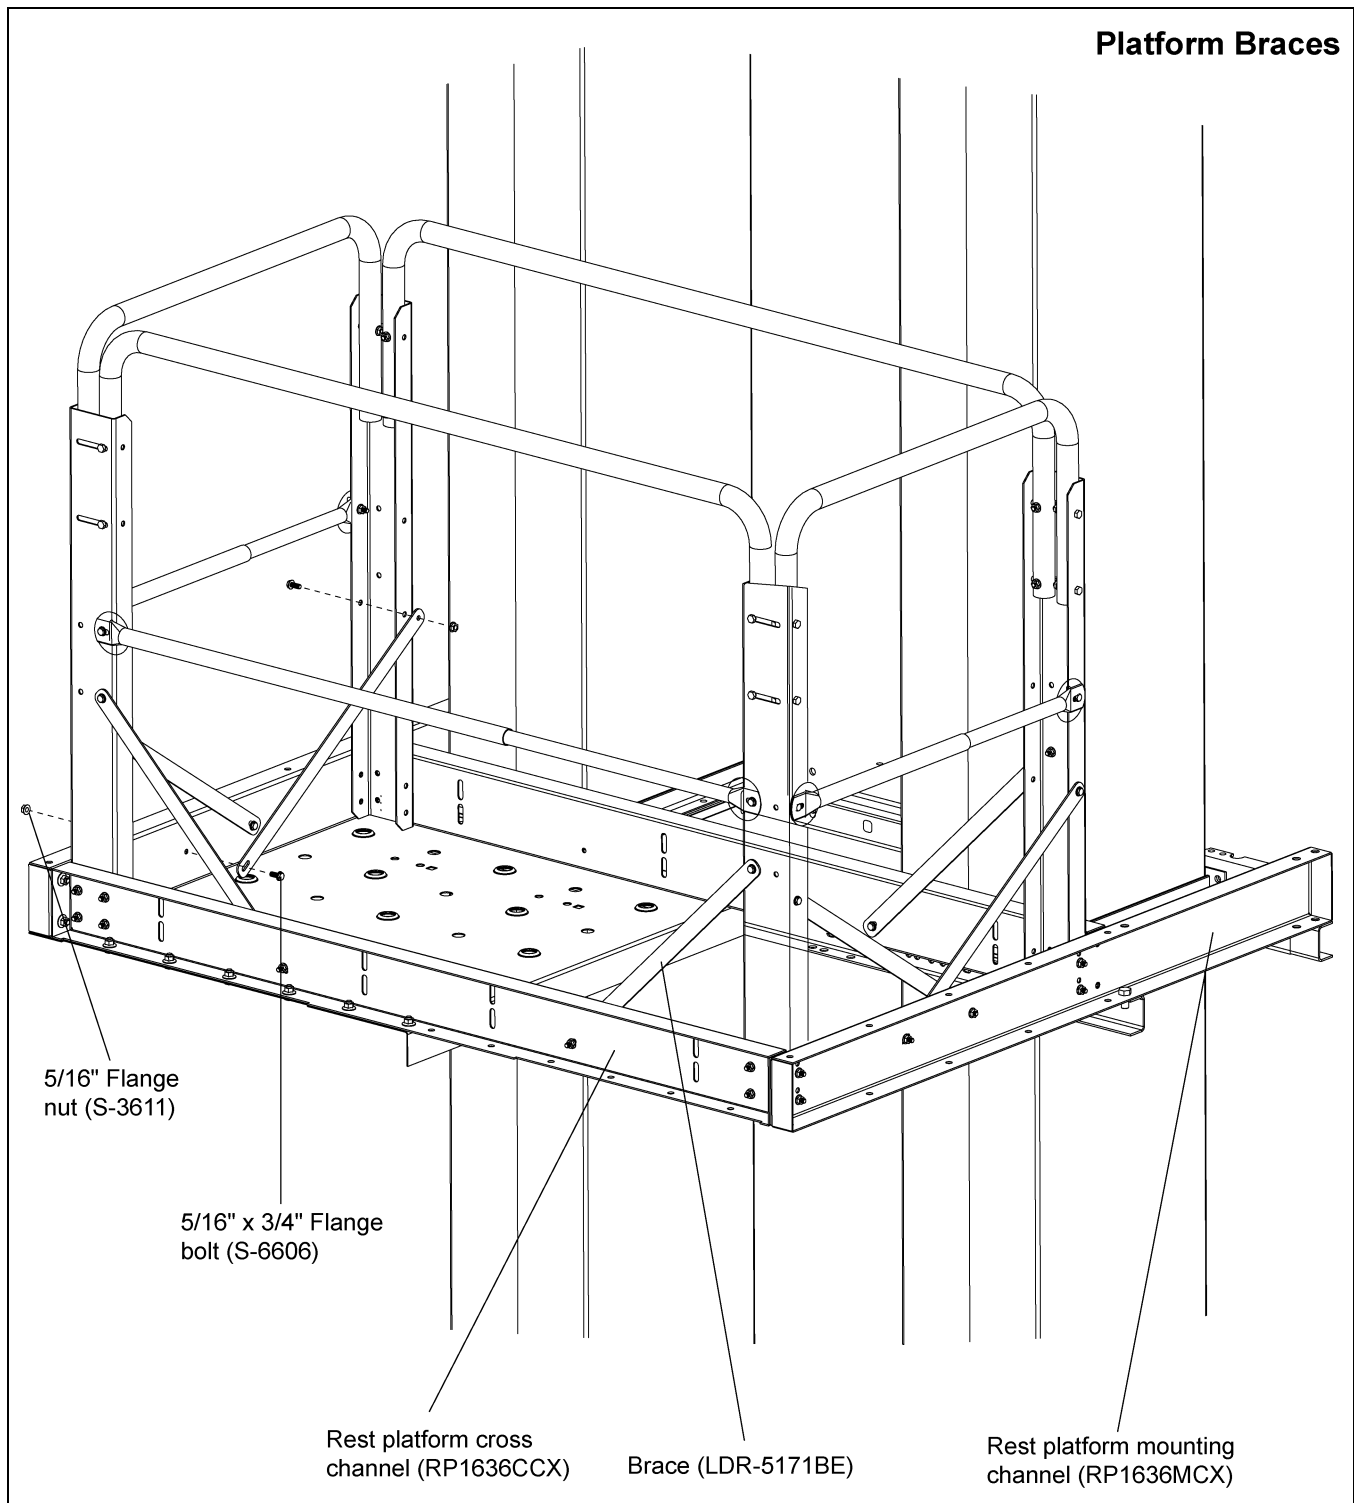

Figure 7L
8. Platform braces must be installed from handrail posts to mounting and cross channels using 5/16" x 3/4" flanged hex bolts. Braces should be attached to the outside of the platform post and to the inside of the mounting and cross channels. **NOTE:** Safety cage bars (LDR-5171BE) are used as platform braces/tie angle braces through out this installation. Bolt heads should be on inside of platforms. (See Figure 7L.)